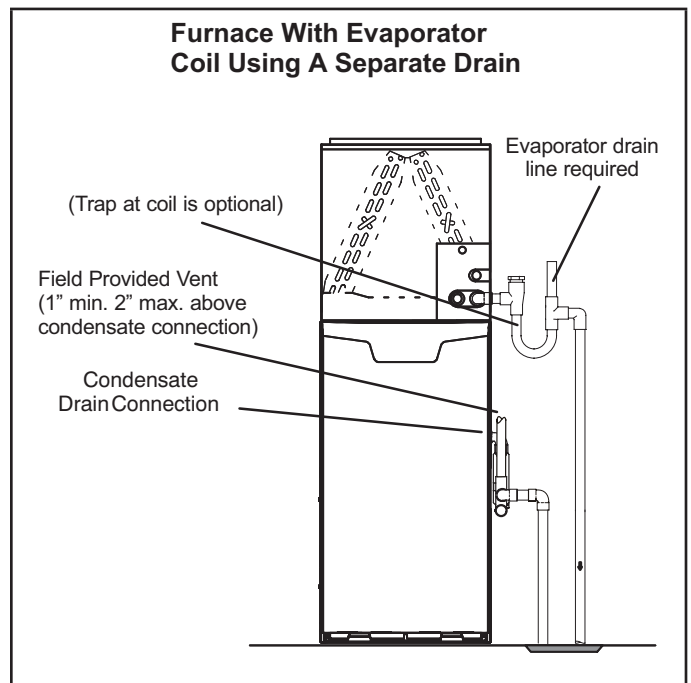
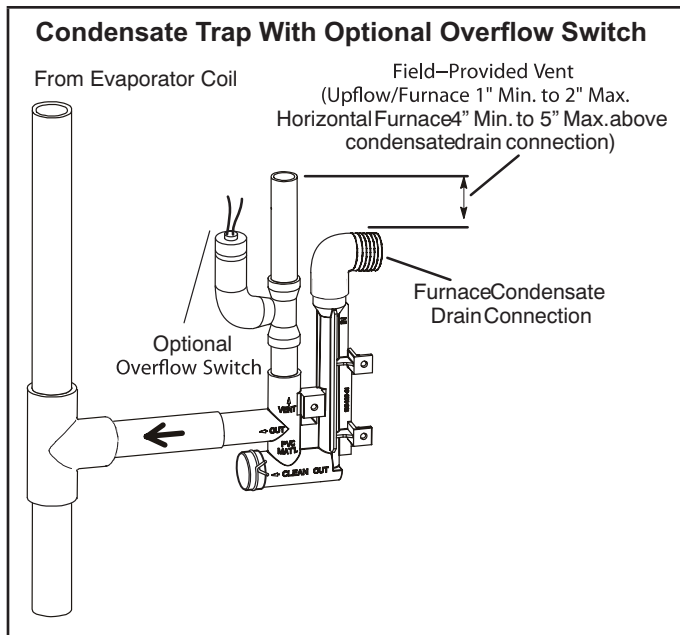
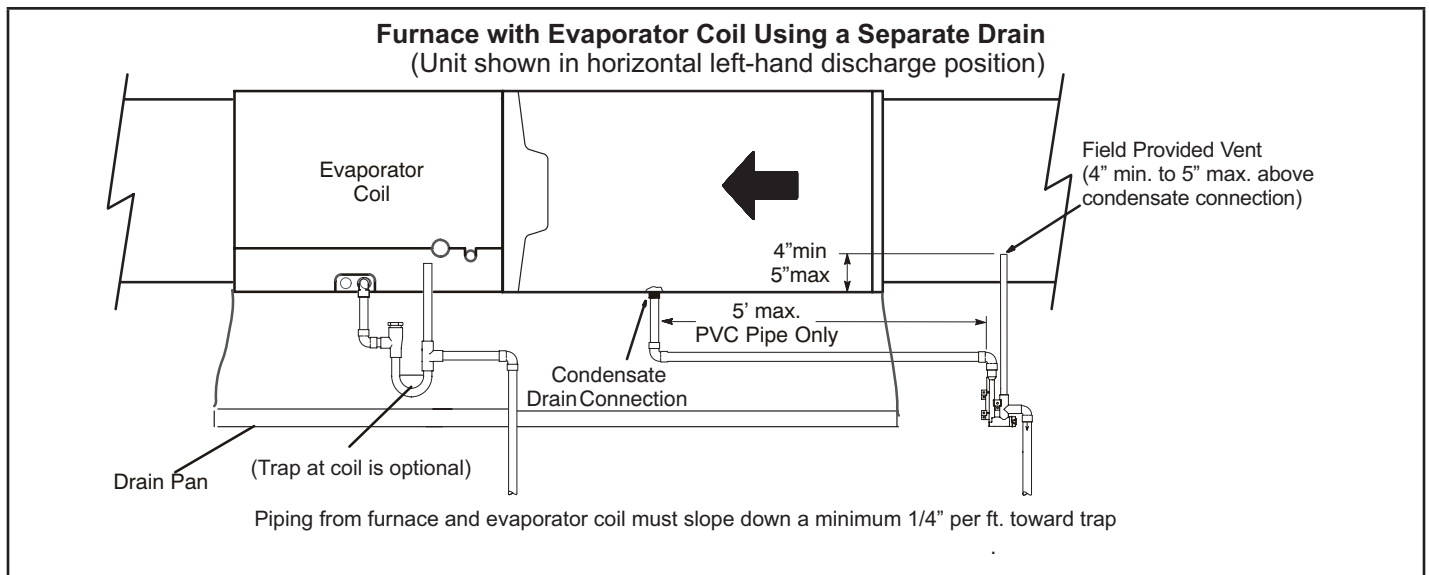
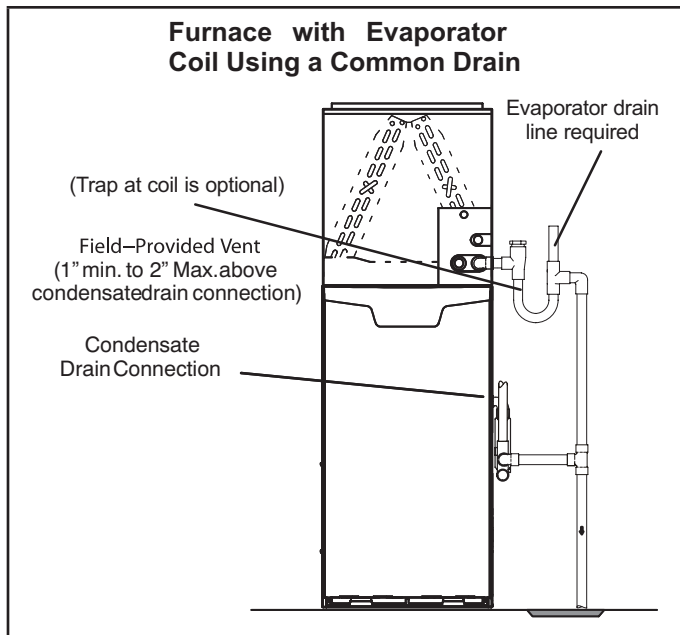

FIGURE 46
FIGURE 47
FIGURE 48
FIGURE 49
- 5 - FIGURE 46 and FIGURE 48 show the furnace and evaporator coil using a separate drain. If necessary the condensate line from the furnace and evaporator coil can drain together. See FIGURE 47, FIGURE 49 and FIGURE 50 .
Upflow furnace (FIGURE 49) - In upflow furnace applications the field provided vent must be a minimum 1" to a maximum 2" length above the condensate drain outlet connection. Any length above 2" may result in a flooded heat exchanger if the combined primary drain line were to become restricted.